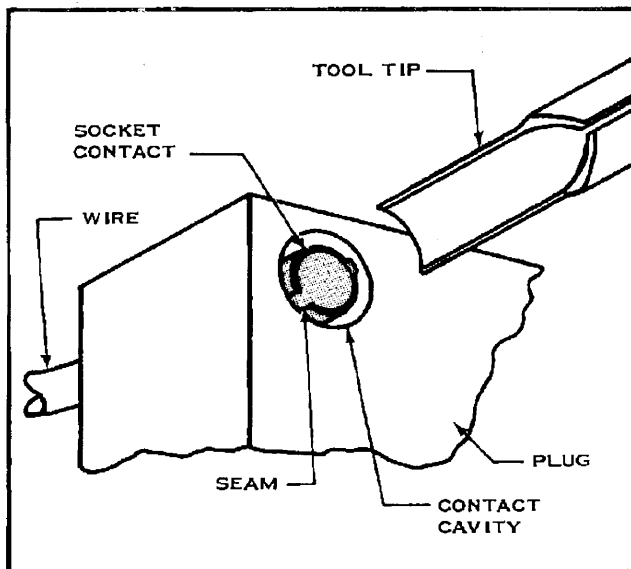

Fig. 2
- View Plug as shown in Figure 2. Notice seam on Socket Contact.
- Push Socket forward in Cavity as far as it will go and insert Tool Tip into Contact Cavity (see Figure 2) so that Tip is on opposite side of Contact from seam.
- Make sure Tool is completely bottomed in Cavity. Then pull on Wire to remove Contact from Cavity. See Figure 2.